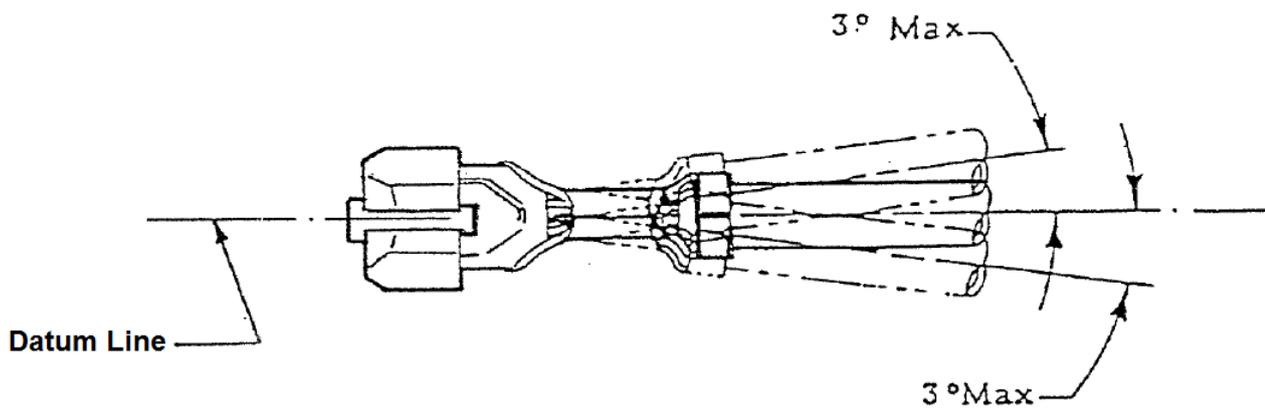

Figure 3
- 2) The side to side bending of the contact shall not exceed the limits specified in Figure 3.